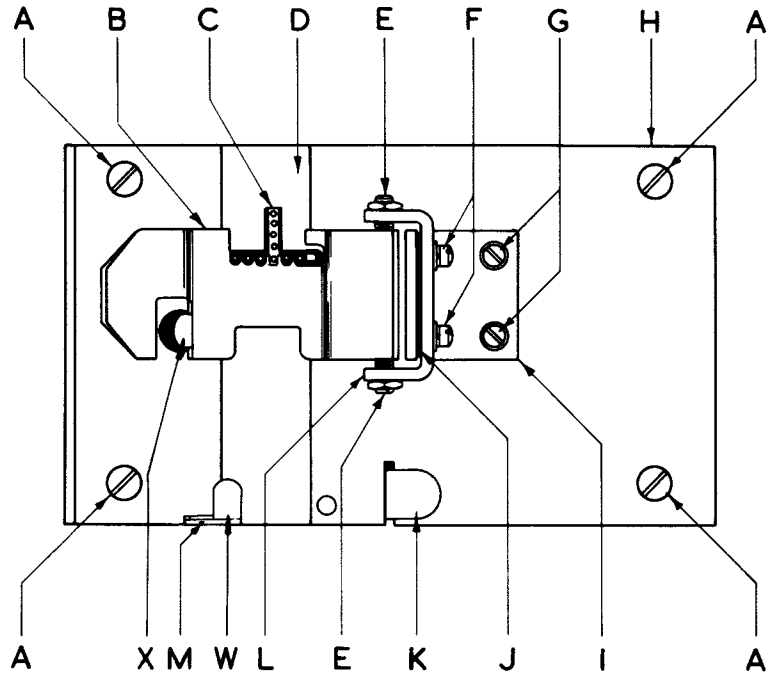

FIG. 13
4. Remove the tape width-setting lever W, Fig.13, and its spring. Remove two springs from their anchorages on release lever K, and swing the lever forward out of its slot in top plate H.